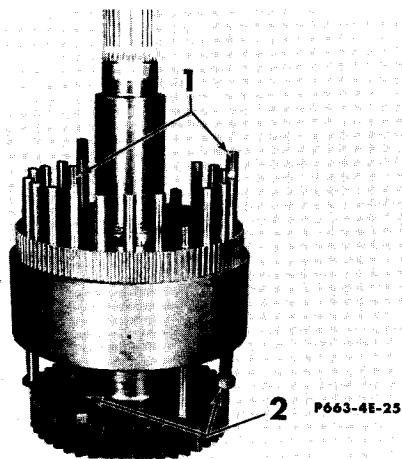

Figure 4E-25
Remove nuts and special nuts. Remove backing plate. Pull the bolts (1) with the marked head up and support them with three bolts and nuts (2) 3/4" x 2-1/2" lg. Install the piston rings in the piston as in Figure 3G-14. Install piston, spring retaining plate, with dowel pins lined up with hole in plate. Install bronze plate, Belleville springs, steel plate etc. ending up with Belleville washers and bronze plate. See Figure 4E-15 for Belleville spring stacking procedure.